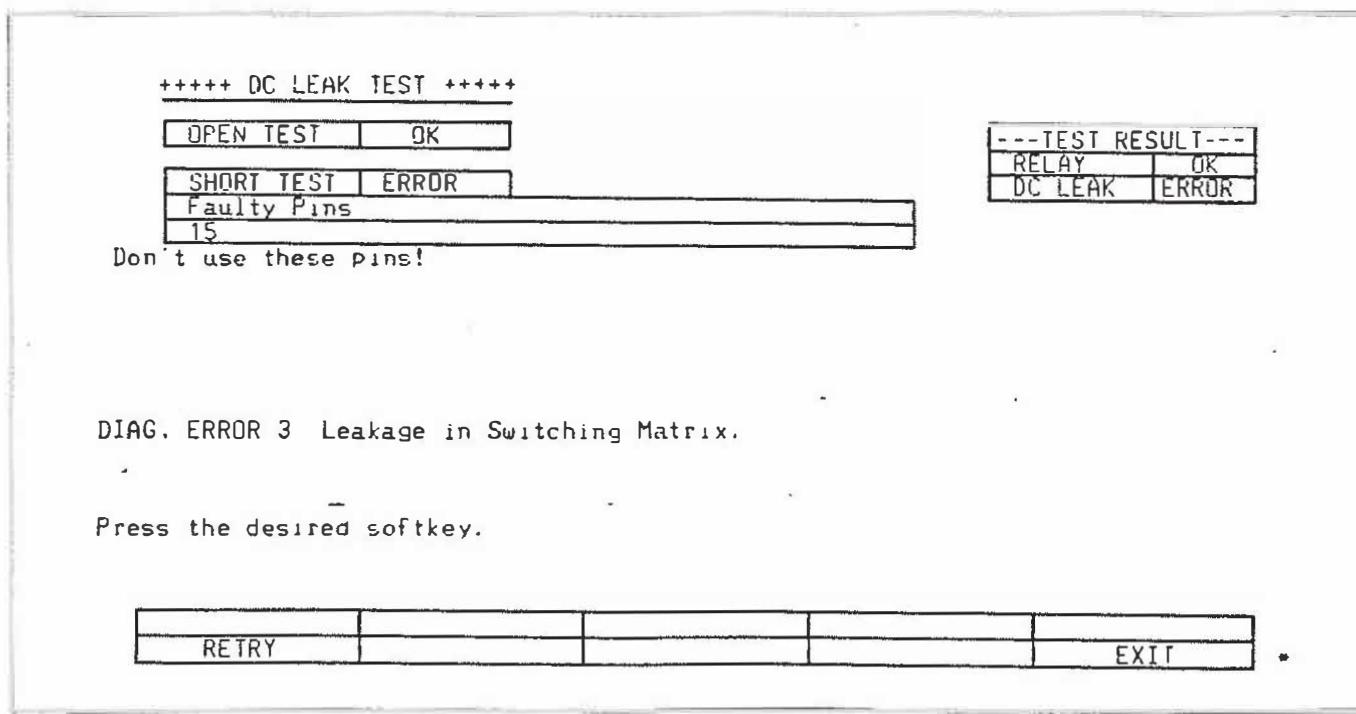

Figure 4-5. DC Leak Test Display
- (3) If the 4085A fails the Leakage Test, an error message, along with the number of the defective port or measurement pin, will appear on the computer's screen as shown in Figure 4-5. Refer to paragraph 4-17 for error handling instructions.
- (4) To execute the Leakage Test again, press softkey **[K5]** (RETRY). To exit the Leakage Test, press softkey **[K9]** (EXIT). The diagnostics menu will be redisplayed.